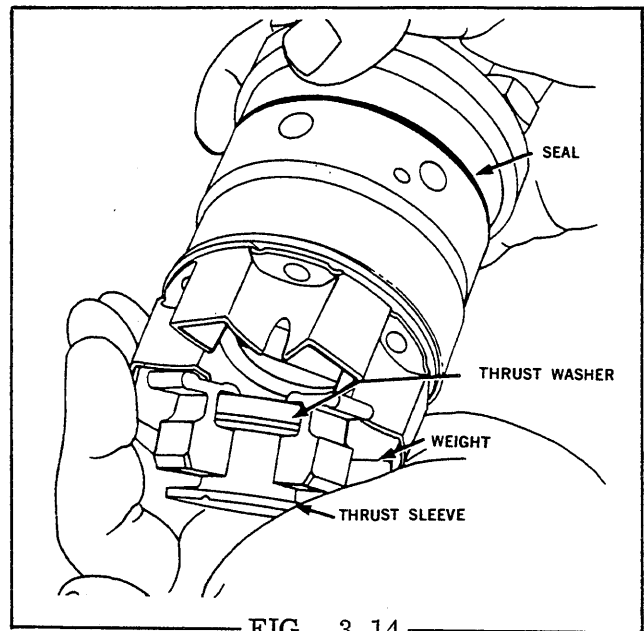

FIG. 3.14
STEP 14 To disassemble the governor, invert the hydraulic head and let the weights, governor thrust sleeve and washer fall into your hand (Fig. 3.14). Place head and rotor assembly on top of fixture No. 19965.